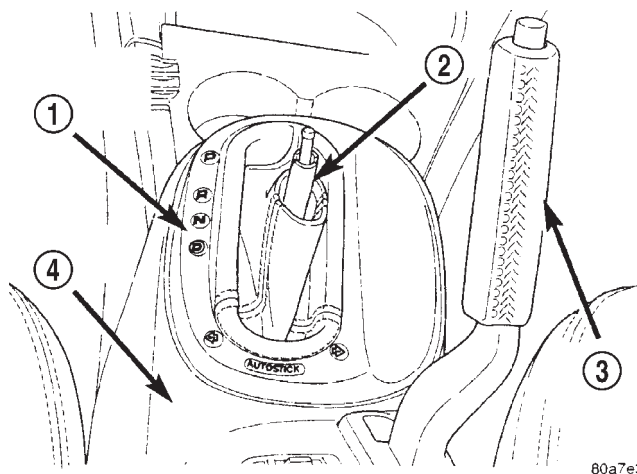

Fig. 133 Shift Range Indicator
(2) Remove the shift range indicator (Fig. 133) from the center console. The shift range indicator is attached to the center console using retaining clips. It is removed by carefully prying it off the center console. The shift range indicator covers the 2 attaching screws for the center console.